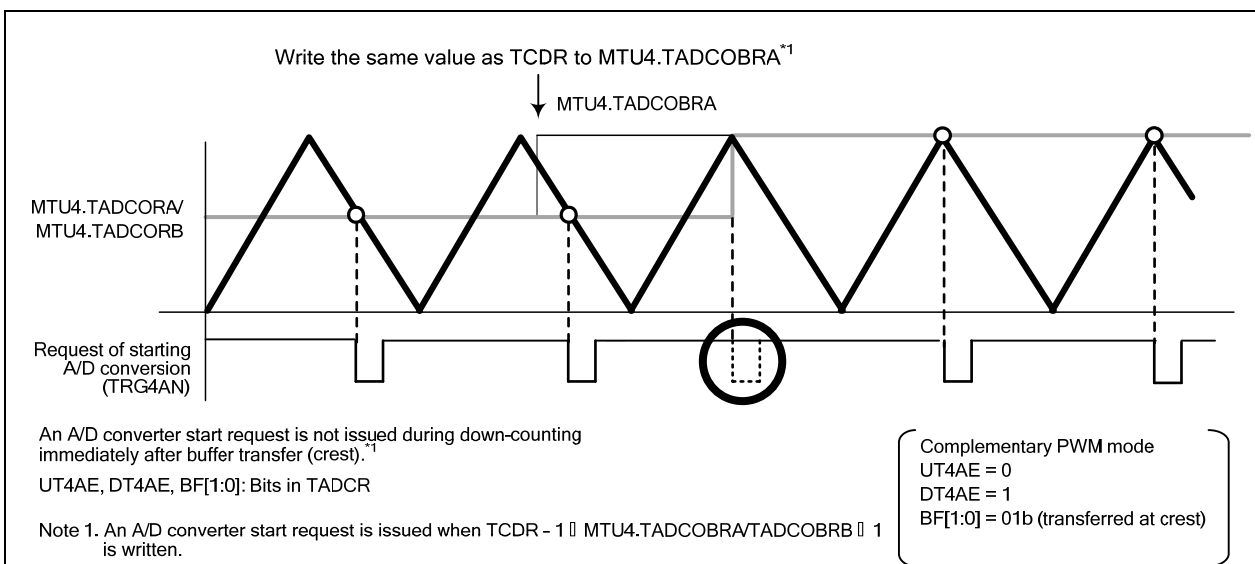

Figure 18.126 A/D Converter Start Request When the Same Value as TCDR is Written to MTU4.TADCOBRA
- When the same value as that of TCDR is set to MTUn.TADCOBRA/MTUn.TADCOBRB and the DT4AE or DT4BE bit in TADCR is set to 1, and the result is transferred to the buffer when counting by MTUn.TCNT reaches its crest, an A/D converter start request is not generated during the down-counting period immediately following the transfer (Figure 18.126).